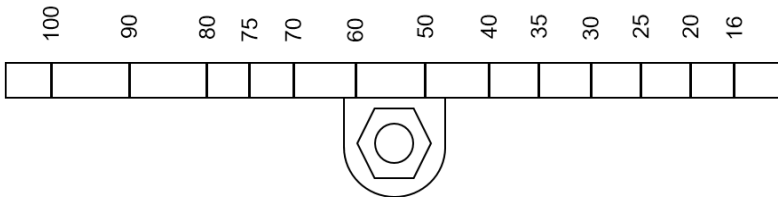

Fig. 31 AEL7 Stroke arm (8 kN+)
- Loosen the Stroke Slider lock nut (10 mm A/F) and carefully move the slider to the required stroke as indicated on the arm (Figure 31)